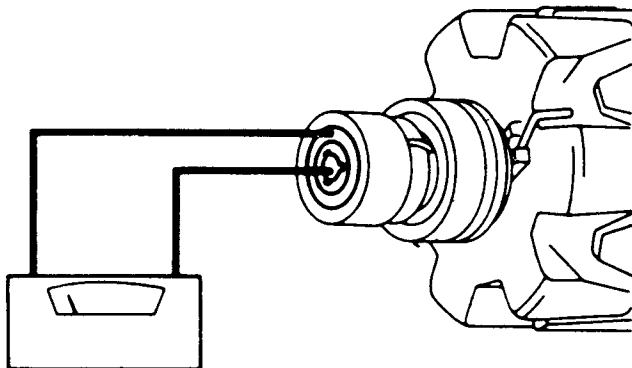

Fig O6.2
- (1) Refer to Fig O6.2. Connect the ohmmeter between the slip-rings.
- (2) Check that the resistance is 3,2 ohms at 20°C.